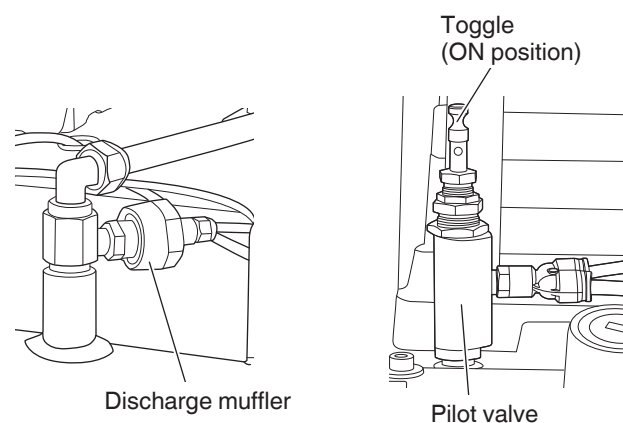
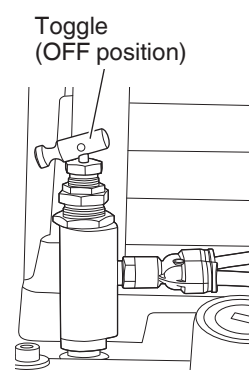

Fig. 6
Fig. 7
- B) When the toggle is in the ON position, all air from this compressor is vented through the discharge muffler (Fig. 6). This gives an easy start feature. For normal operation, the toggle is in the OFF position (Fig. 7).